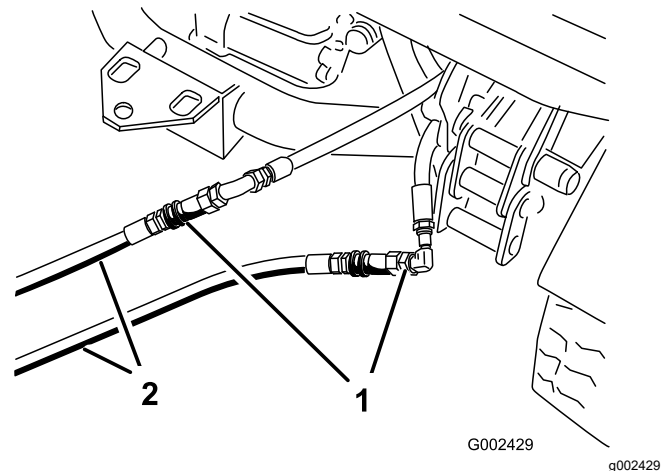

Figure 67
3. On the disabled machine, connect the 2 jumper hoses to the hoses that were disconnected (Figure 67).